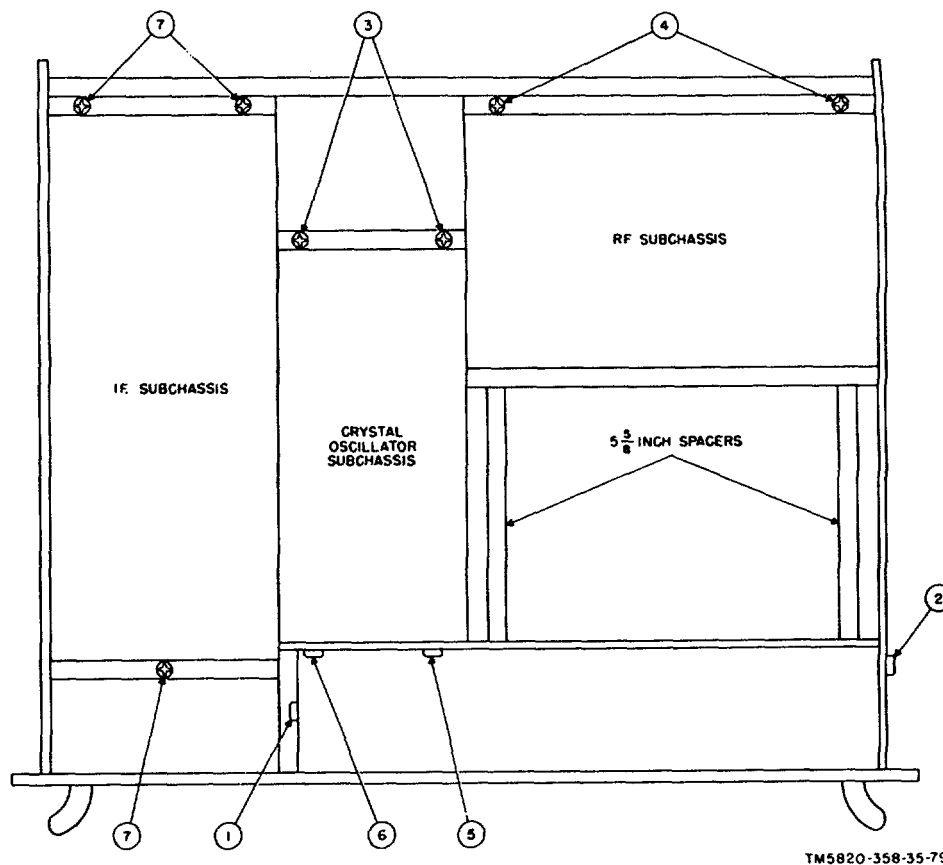

Figure 66. Rf, if., and crystal-oscillator subchassis removal and replacement, location of screws.
- (4) Replace and secure the front panel with the eight 5/8-inch by 8-32 screws and the five 7/16-inch by 6-32 screws and the five lockwashers.
- (5) Tighten the DIAL LOCK hexagonal nut with a 1/2-inch socket wrench. Replace the knob, allowing a 1/8 inch clearance between the knob and the front panel.
- (6) Replace the remaining knobs on their respective shafts. Allow a 1/8-inch clearance between the front panel and the MEGACYCLE CHANGE and the KILOCYCLE CHANGE control knobs.
- (7) Engage and tighten the shaft couplings on the BANDWIDTH and BFO PITCH controls. Be sure that the BANDWIDTH control knob is tightened on the 16 position and that the BFO PITCH control and the ANT TRIM knobs are tightened to 0.
- (8) Turn all the knobs previously removed through their entire range, and check for smoothness of operation and freedom from binding.
59. Removal and Replacement of Rf Subchassis (fig. 66)
- (6) Remove the two 1/2-inch by 6-32 Phillips green-headed screws and lockwashers ((1), fig. 66) through the access hole provided in the left side of the main frame. These two screws are in a vertical row.
- (7) Remove the three 1/2-inch by 6-32 Phillips green-headed screws and lockwashers ((2), fig. 66) that are located at the right side of the main frame. These three screws are in a vertical row.
- (8) Loosen the two green-headed captive screws ((3), fig. 66) and the two green headed captive screws ((4), fig. 66).
- (4) Engage the two green-headed captive screws ((3), fig. 66) at the rear of the crystal-oscillator subassembly; do not tighten them. Engage, but do not tighten, the two green-headed captive screws ((4), fig. 66) at the rear of the rf subassembly.
- (5) Engage the three Phillips greenheaded screws with their lockwashers ((2), fig. 66) and the two Phillips green-headed screws ((1), fig. 66). Engage the two Phillips green-headed screws and lockwashers at the front under the clutch gear and tuning mechanism.
- (6) Tighten all the green-headed screws in the following order:
- (a) Three marked (2).
- (b) Four captive screws marked (3) and (4).
- (c) Two marked (1).
(fig. 66)
This makes 5/16-inch by 6/32 Phillips greenheaded screws ((5), fig. 66) accessible.
- (4) Remove the screw ((3) above) and its lockwasher and the two greenheaded screws and their lockwashers ((6), fig. 66). The latter two screws are in a vertical row.
- (6) Loosen the two green-headed captive screws ((3), fig. 66) at the rear of the crystal-oscillator subchassis.
- (3) Place the subchassis in position on the deck of the main frame, and carefully slide it forward and engage the drive shaft.
- (4) Engage, but do not tighten, the two green-headed captive screws at the rear of the subchassis.
- (5) Tighten the setscrew in the shaft coupler on the crystal-oscillator drive shaft, and be sure that the coupler and gear are pushed against the oilite bearing on the subchassis.
- (6) Replace the three Phillips greenheaded screws and their lockwashers ((5) and (6), fig. 66) at the front of the crystal-oscillator subchassis. Long-nosed pliers
- (4) Loosen the three green-headed captive screws ((7), fig. 66) that secure the if. subchassis to the main frame.
- (5) Lift the if. subchassis out of the main frame.